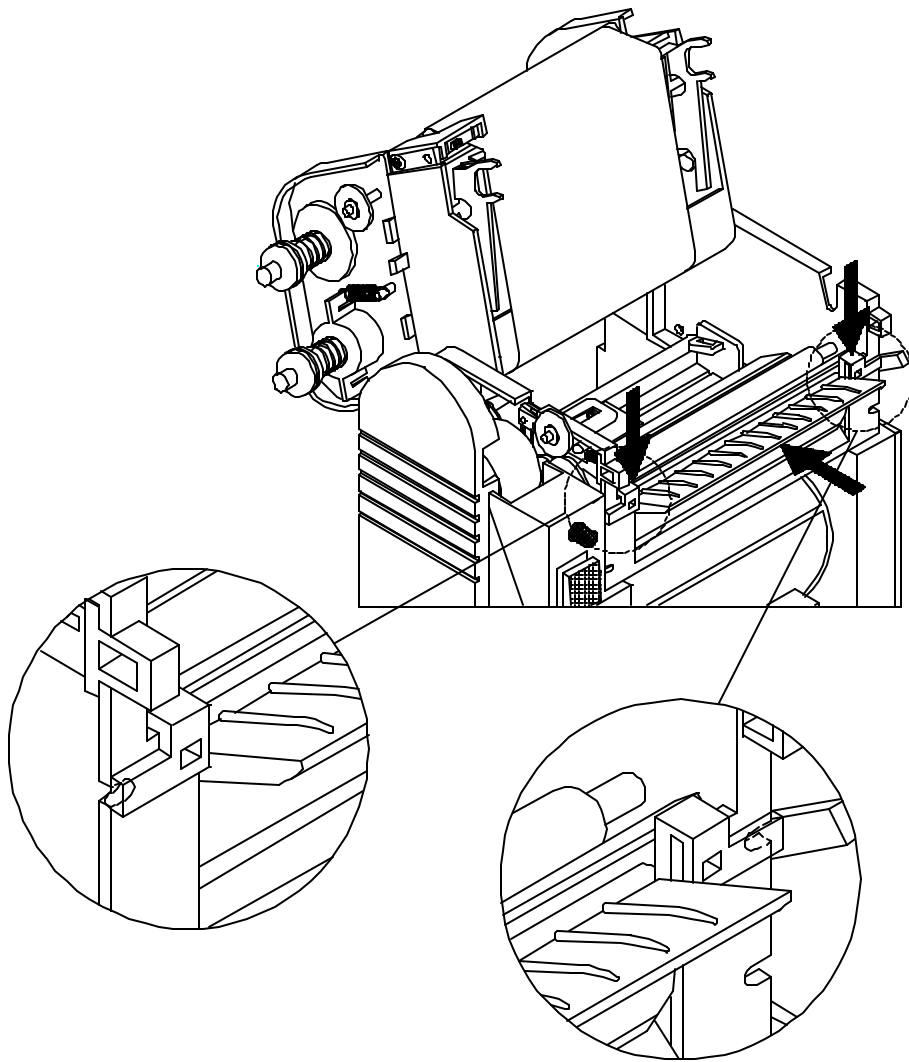

Fig. 2
2. Refer the figure 2, follow the 3-arrow position and direction to gently insert the strip bracket
3. Refer the figure 2, a part of zoom out to show the strip bracket bar correct position. Please